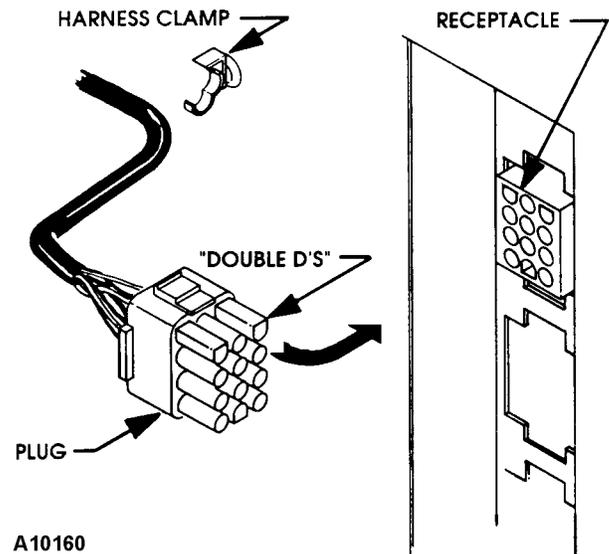

FIGURE 14. Tray Harness
2. Disengage the tray harness from its snap open harness clamp on the right hand side wall. See Figure 14.
3. Disconnect the tray plug from its receptacle on the right hand side wall. See Figure 14.
12. For proper plug to receptacle orientation the two flat sided connectors (**Double D's**) on the plug should be up. See Figure 14.